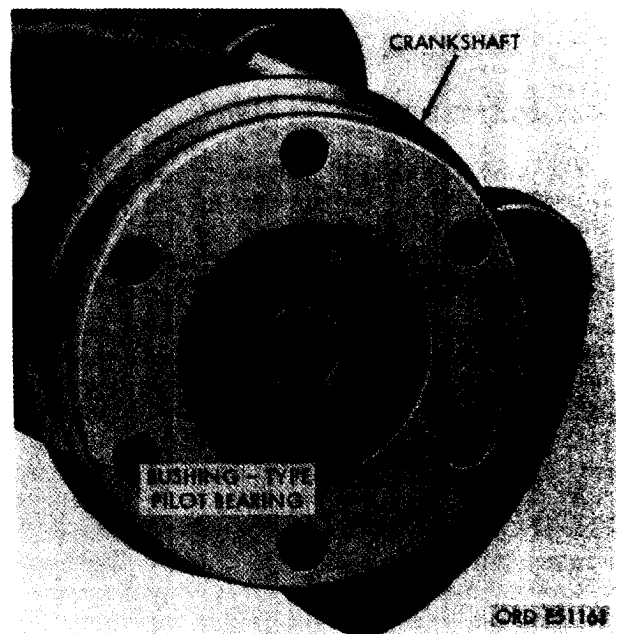

FIGURE 337. LOCATION OF BUSHING-TYPE BEARING IN CRANKSHAFT ASSEMBLY.
- (4) Inspect journals for nicks, burs, grooves, scratches, galling, scuffing, or discoloration. Mark minor defect areas for repair.
- (5) Check crankshaft bushing-type pilot bearing (MM-6) for cracks or other visible damage. Check bore of bearing against limits specified in repair and rebuild standards (par. 292.) See figure 337.
#### b. Crankshaft Bushing-type Pilot Bearing Replacement (fig. 337).